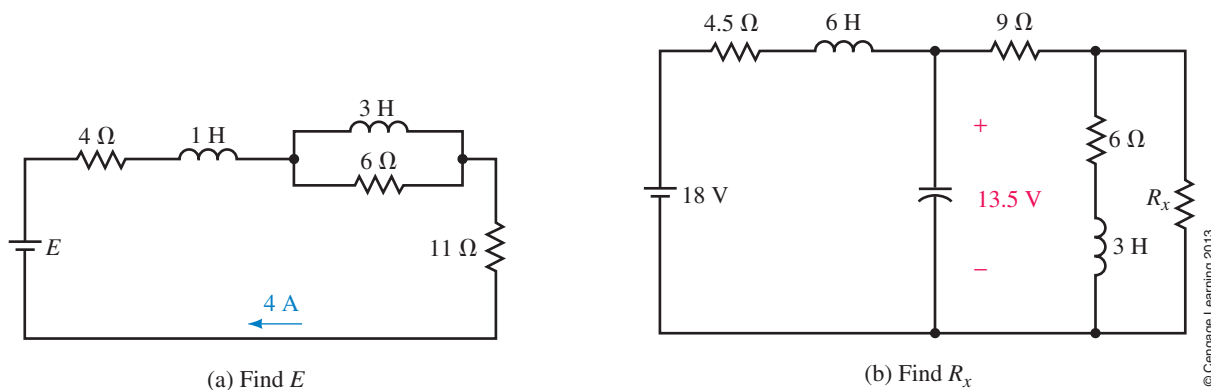

FIGURE 13–43
33. Find the energy stored in the inductor of Figure 13–44.